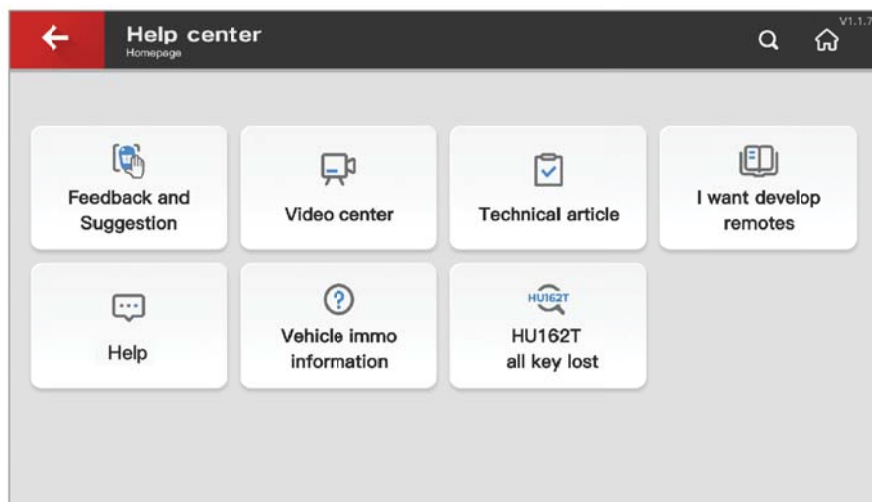

Fig.4.1.3
**Help center:** Click the icon to find helpful technical guidance. See Fig. 4.1.3